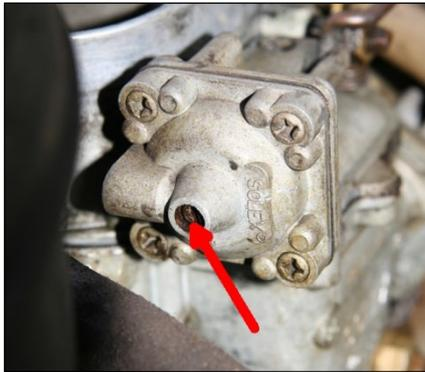
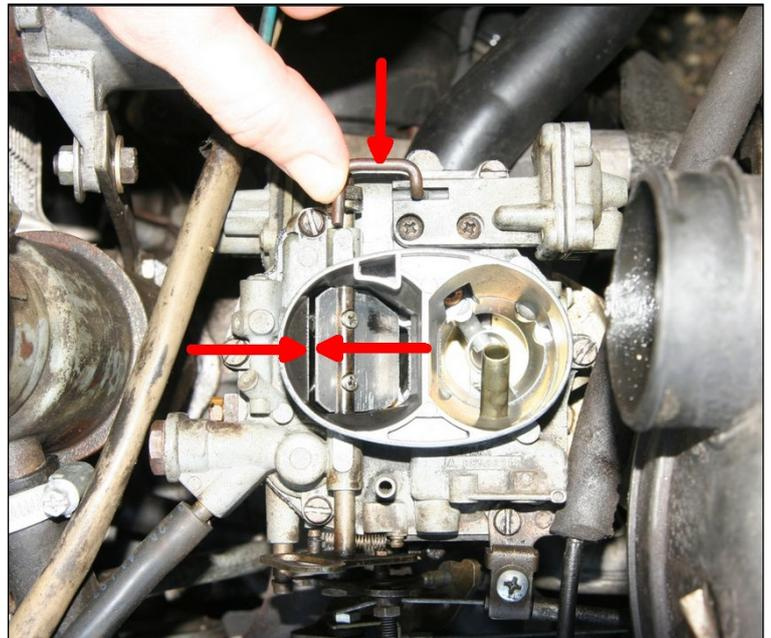

Fig. 7-11
Fig. 7-12
The choke vacuum actuator assembly on the twin-choke carburettor is shown in Fig. 7-11 above, its diaphragm cover secured by four screws. The central screw (arrowed) is the vacuum actuator adjusting screw. The purpose of the actuator is to open the choke plate slightly to lean the mixture once the engine starts from a cold start with a full choke, assisting in a smooth idle with the choke full on. This occurs by the engine inlet manifold vacuum acting on the diaphragm, which moves the choke plate via the hook shown at the upper red arrow in Fig. 7-12. The actuator assembly is shown at upper right in Fig. 7-12.
2. Push the hook fitting from the vacuum actuator, shown in Fig. 7-12 at the upper red arrow, fully to the right (rearwards) and hold it there.